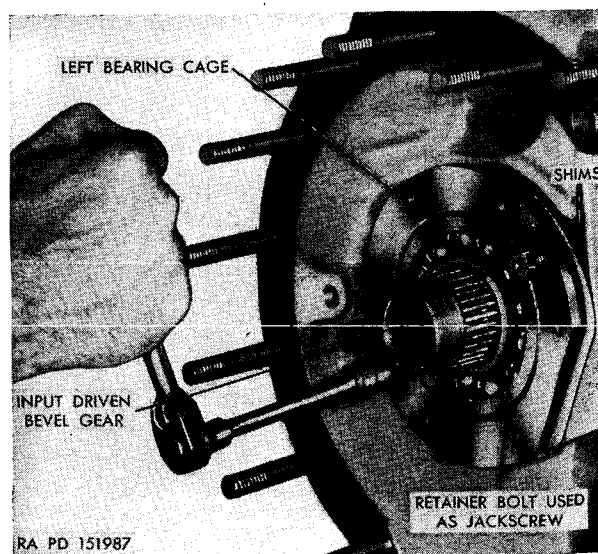

Figure 248. Removing cage and bearing assembly.
- (2) Separate and remove the cage and bearing assembly from the gear, by using as jackscrews two of the bolts just removed from the retainer (fig. 248).